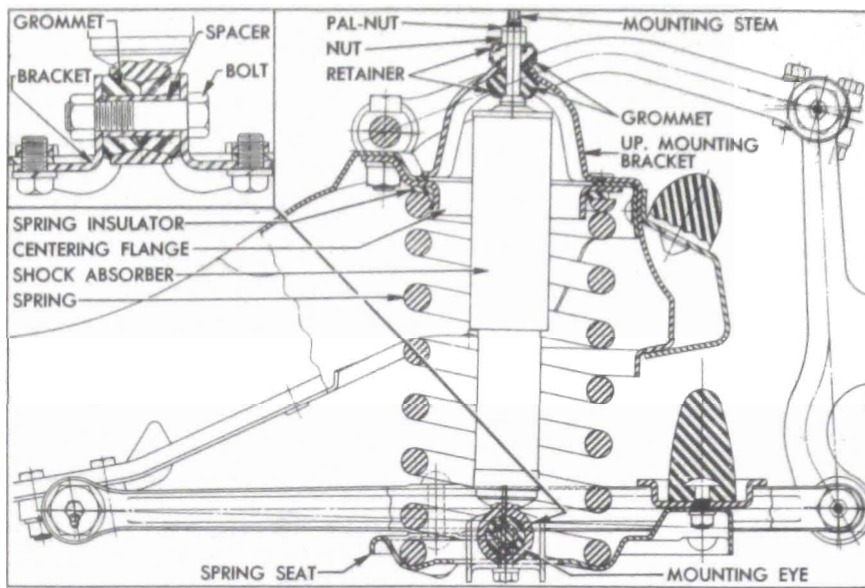

Figure 7-15—Front Spring and Shock Absorber Installation
1. Hold shock absorber mounting stem with a $\frac{1}{4}$ " end wrench while removing pal-nut and retaining nut, then remove grommet retainer and rubber grommet. See figure 7-15.
6. Install spacer and rubber grommets in mounting eye of shock absorber, install lower mounting brackets and tighten pivot bolt until brackets are tight against ends of spacer. See figure 7-15.